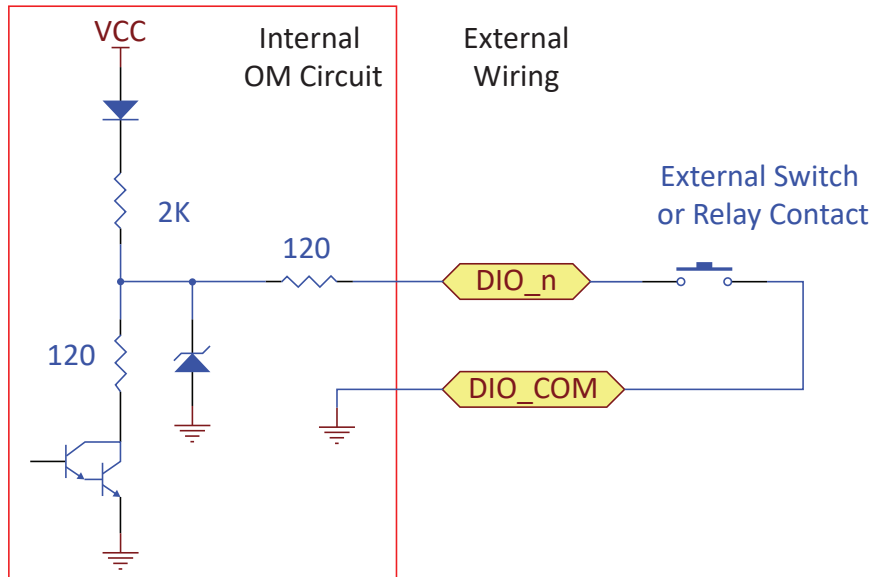

Figure 7
11.9.1 The DIO input mode is a low true input. The customer connects the DIO signal to DIO_COM in order to turn on the input. This can be done with a mechanical switch, a relay contact closure, or a PLC 24VDC output. An external power supply is not required to use DIO inputs. Here is an example of a DIO being used as a low true input. See *Figure 7*.